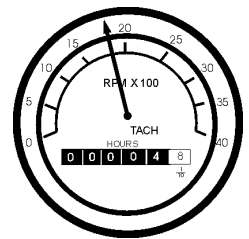

Figure 52. Engine Tachometer Gauge
16. The **tachometer gauge** (Figure 52) will indicate the speed of the engine when the generator is operating. Under normal operating conditions this speed is approximately 1800 RPM's.